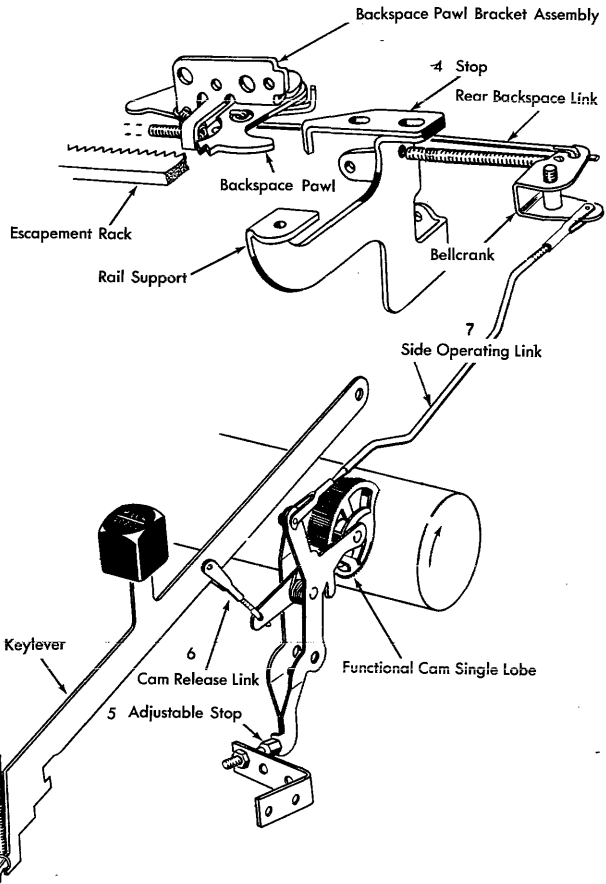

Figure 37. Backspace Adjustment
half of the cam lug (Figure 37).
6. Adjust the cam release link so that the cam is released when the key-lever has been depressed about $\frac{2}{3}$ of its downward travel (Figure 37).
7. Adjust the side operating link so that, when the backspace pawl contacts its stop, there is no more than $\frac{1}{4}$ " travel left on the circumference of the cam. Check the adjustment at several carriage positions by tripping the cam, rotating the power roll by hand, and observing the amount of choking off (Figure 37).